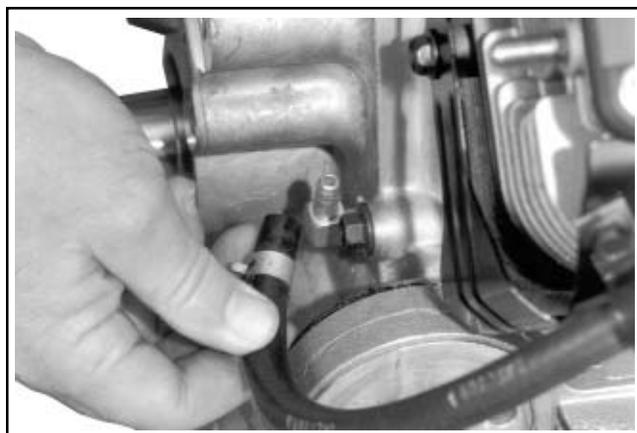

Figure 9-13. Disconnecting Pulse Line from Crankcase.
2. Disconnect the pulse (vacuum) line from the crankcase, or from the valve cover on earlier models. See Figures 9-13 and 9-14.